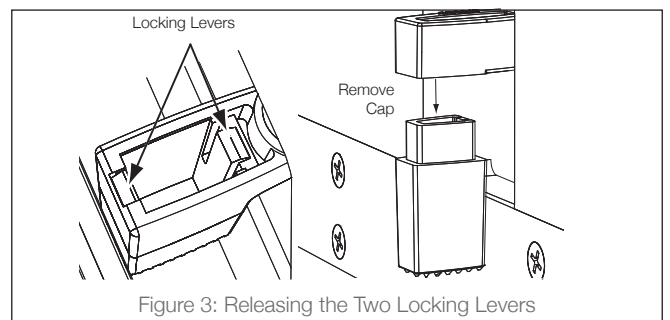

Figure 3: Releasing the Two Locking Levers
7. When installing into double drywall or other thicker wall materials, you may need to remove part of the two-piece toggle feet. Use a small screwdriver to gently release the two locking levers (see Figure 3).